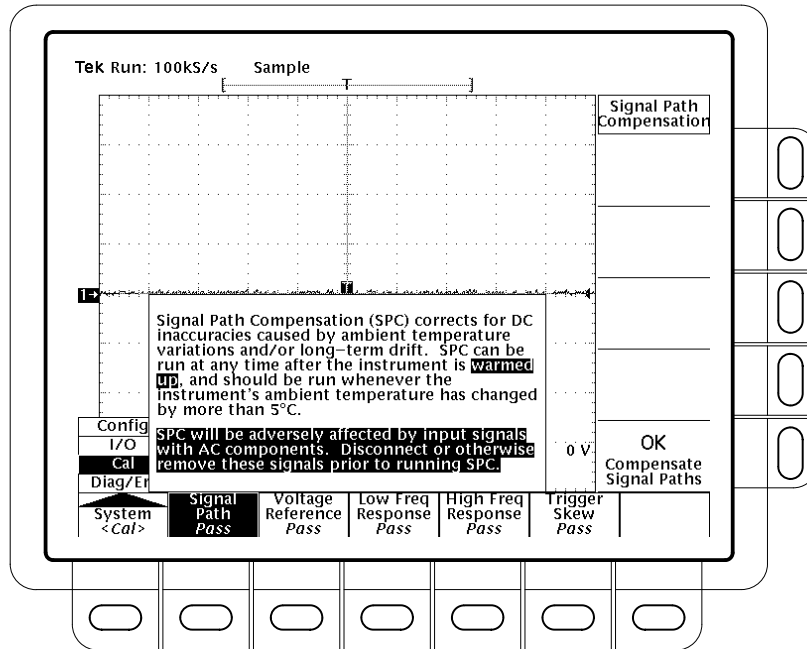

Figure 3–52: Performing a Signal Path Compensation
5. Verify the word **Pass** appears under **Signal Path** in the main menu. (See Figure 3–52.)